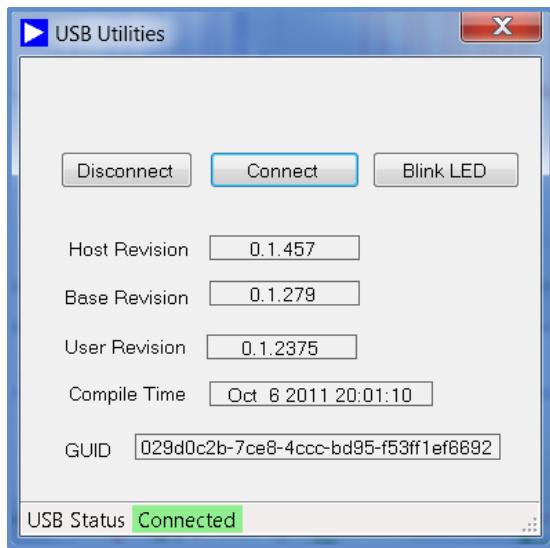
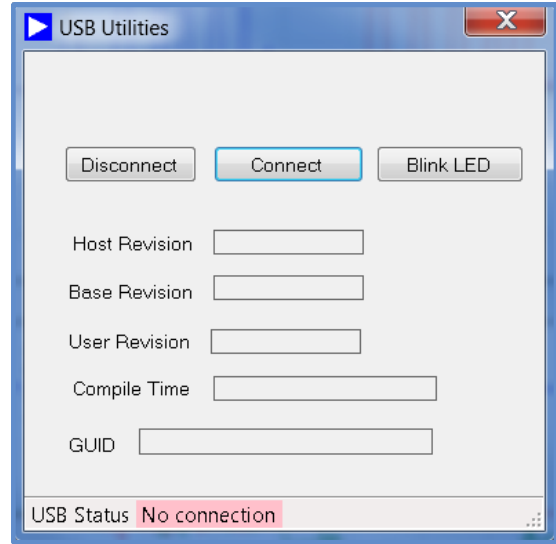

Figure 18. USB Tools, Connected
Figure 19. USB Tools, Not Connected
6. If the software does not recognize the EVAL-ADIS automatically, click **USB Tools**, then **Connect**, to establish communication (see Figure 18).
The **USB Tools** menu option provides a diagnostic tool for managing the connection to the EVAL-ADIS. Click this option to request a connection attempt. This window also provides several revision numbers. These numbers represent internal source control codes and are for Analog Devices, Inc., internal use only (see Figure 18 and Figure 19).